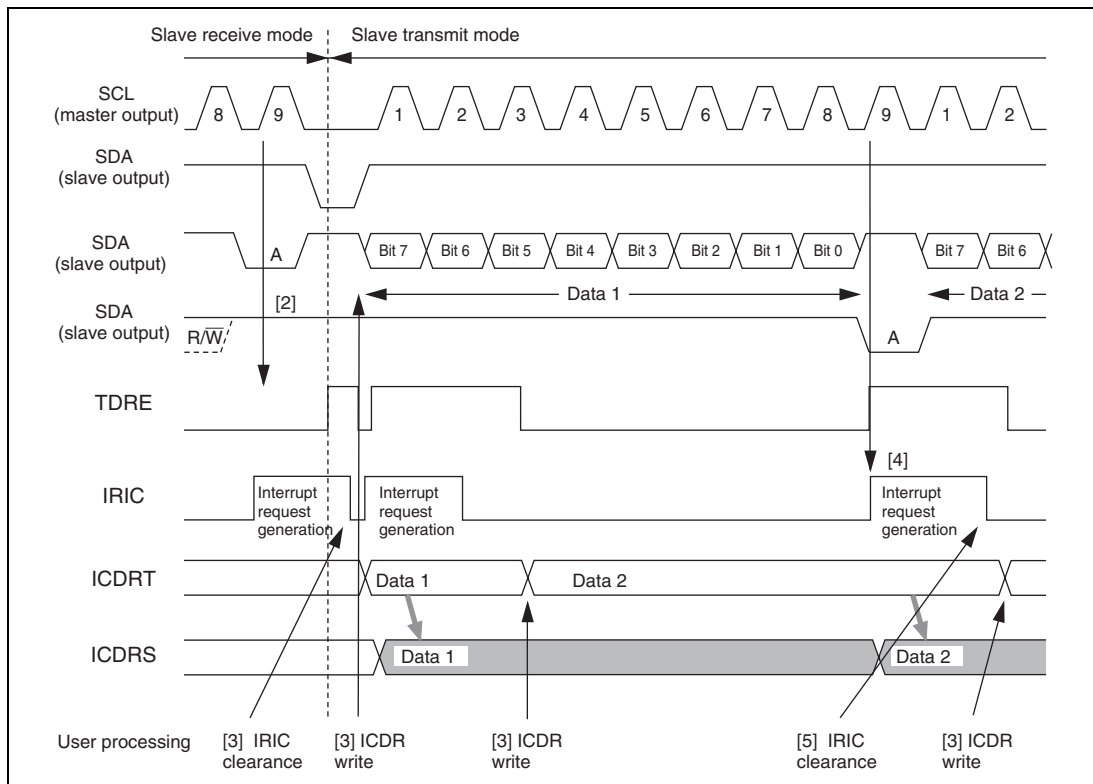

Figure 18.18 Example of Slave Transmit Mode Operation Timing (MLS = 0)
- (1) Set the ICE bit in ICCR to 1. Set the MLS bit in ICMR and the MST and TRS bits in ICCR according to the operating mode.
- (2) When the slave address matches in the first frame following detection of the start condition, the slave device drives SDA low at the 9th clock pulse and returns an acknowledge signal. At the same time, the IRIC flag in ICCR is set to 1. If the IEIC bit in ICCR has been set to 1, an interrupt request is sent to the CPU. If the 8th data bit (R/ \bar{W}) is 1, the TRS bit in ICCR is set to 1, and the mode changes to slave transmit mode automatically. The TDRF flag is set to 1. The slave device drives SCL low from the fall of the transmit clock until ICDR data is written.
- (3) After clearing the IRIC flag to 0, write data to ICDR. The TDRE internal flag is cleared to 0. The written data is transferred to ICDRS, and the TDRE internal flag and the IRIC and IRTR flags are set to 1 again. After clearing the IRIC flag to 0, write the next data to ICDR. The slave device sequentially sends the data written into ICDR in accordance with the clock output by the master device at the timing shown in figure 18.18.
- (4) When one frame of data has been transmitted, the IRIC flag in ICCR is set to 1 at the rise of the 9th transmit clock pulse. If the TDRE internal flag has been set to 1, this slave device drives SCL low from the fall of the transmit clock until data is written to ICDR. The master device drives SDA low at the 9th clock pulse, and returns an acknowledge signal. As this acknowledge signal is stored in the ACKB bit in ICSR, this bit can be used to determine whether the transfer operation was performed normally. When the TDRE internal flag is 0, the data written into ICDR is transferred to ICDRS, transmission is started, and the TDRE internal flag and the IRIC and IRTR flags are set to 1 again.
- (5) To continue transmission, clear the IRIC flag to 0, then write the next data to be transmitted into ICDR. The TDRE flag is cleared to 0.